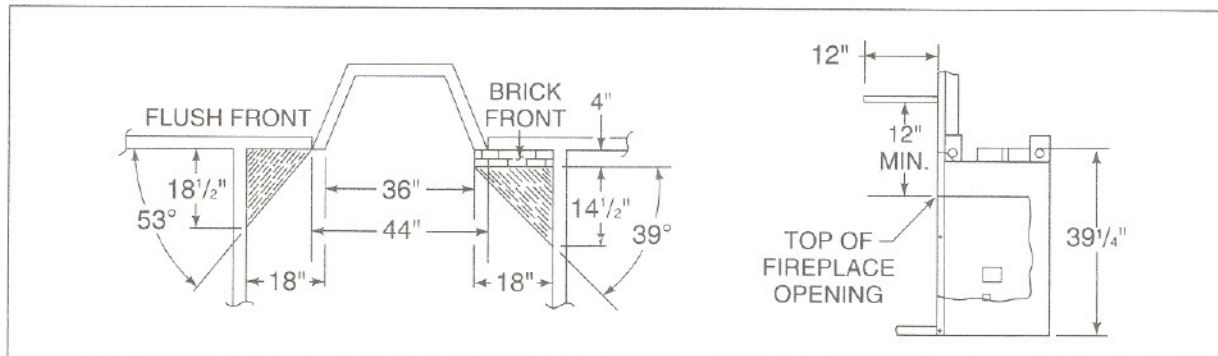

Figure 7
Adjacent combustible side walls must be located a minimum of 18" from the fireplace opening. See Figure 7. If you are using a decorative surround constructed of combustible material, it must be located
within the shaded area defined in Figure 7. Short stub walls are also acceptable if they are contained within the shaded area.
Decorative combustible materials, such as a surround or mantel support brackets may be located within the shaded area on each side of the firebox, as defined in Figure 7. This mantel clearance is in accordance with Section 7-3.3.3 of ANSI/NFPA 211.
2. Subtract the height of the firebox assembly (39 $\frac{1}{4}$ " from the overall height of the fireplace installation. See Figure 7 (page 11).